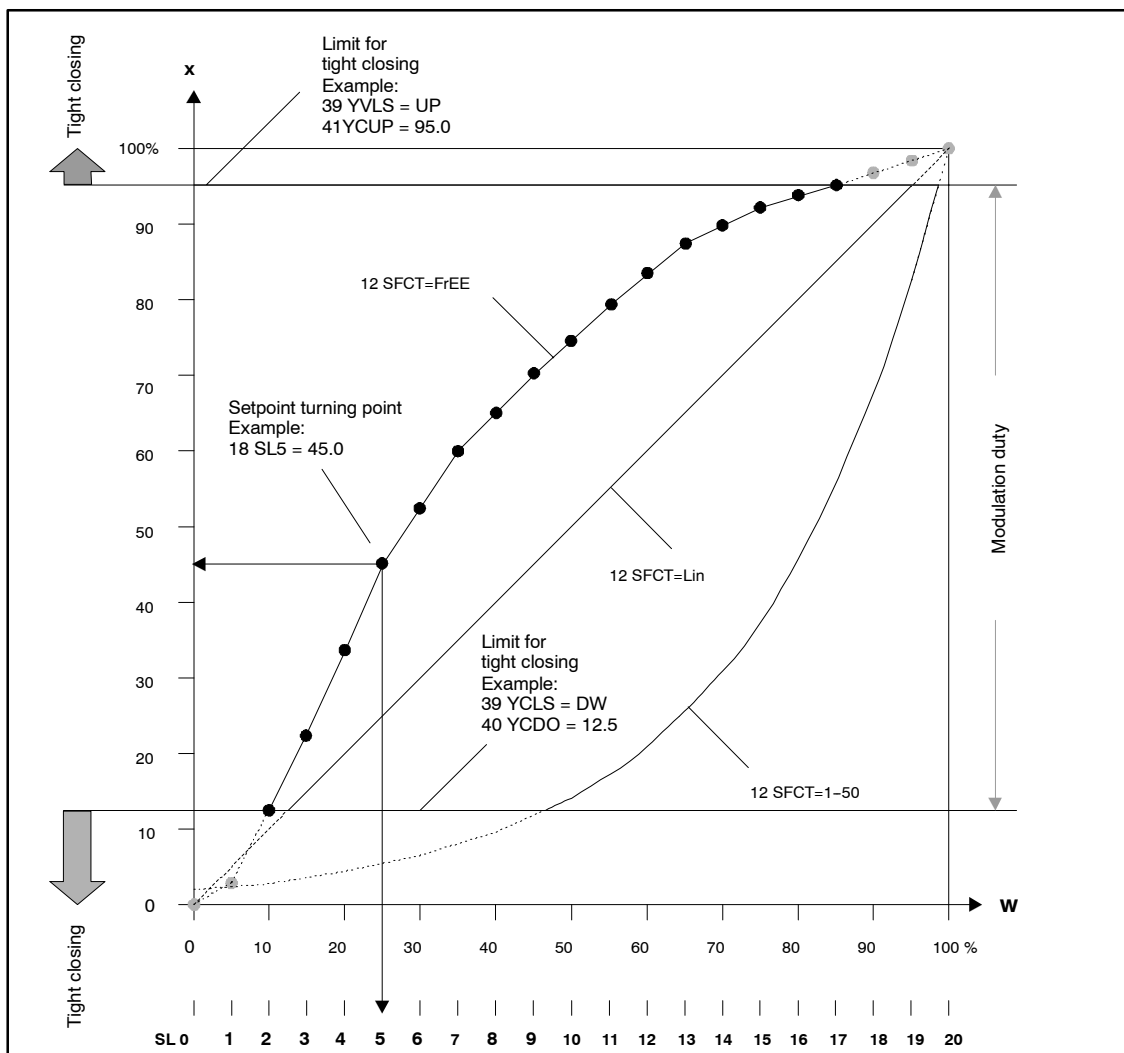

Figure 4-9 Setpoint characteristic, manipulated variable standardization and tight closing function
12.SFCT Setpoint function (see figure 4-9, page 91)
Manipulated variable limiting start (see figure 4-9 and 4-10) and
Manipulated variable limiting end (see figure 4-9 and 4-10)
Manipulated variable standardization (see figure 4-9 and 4-10)
39.YCLS Tight closing with manipulated variable (see figure 4-9, page 91)